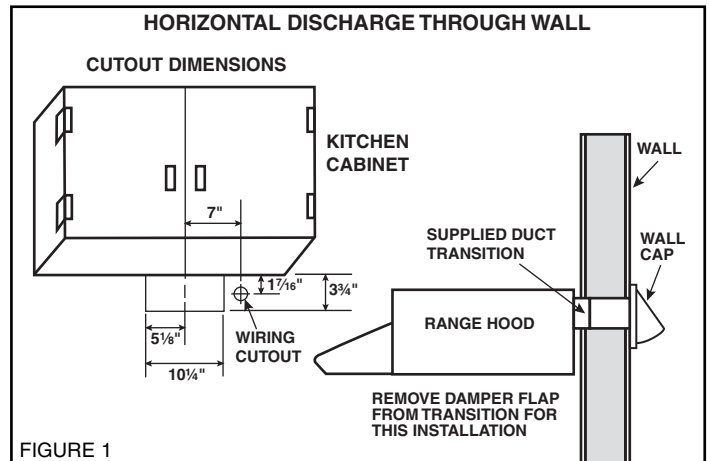

FIGURE 1
- Refer to **Figure 1** if the range hood is to be installed with a horizontal discharge.